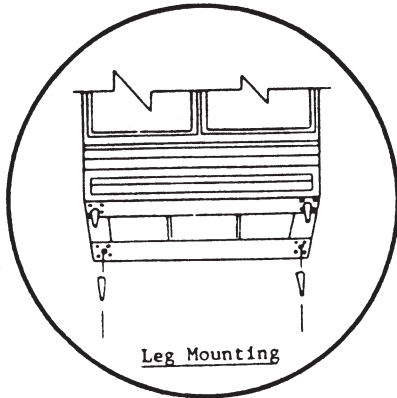

Fig. 1
b. Legs & Casters: (optional) (See Fig. 1)